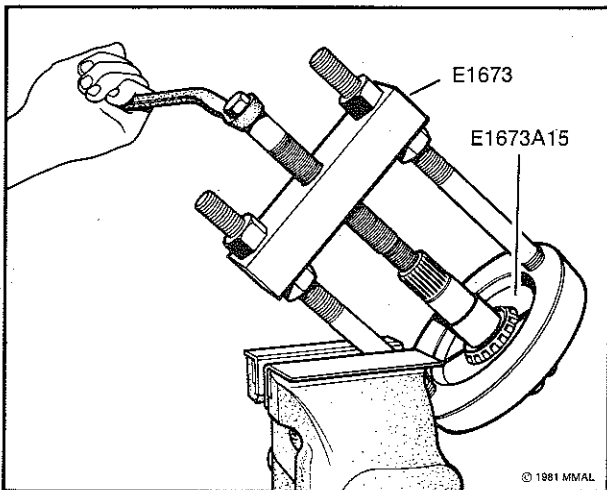

Fig. 24—Removing pinion rear bearing with special tools
(24) Remove pinion rear bearing with Special Adaptor Plates and Puller, refer Fig. 24.